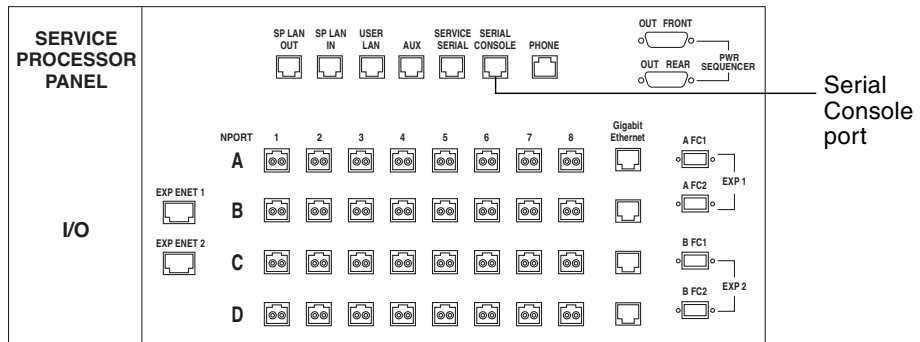

FIGURE 2-20 Serial Console Connection
3. Connect the serial cable from the Serial Console port on the service panel to your laptop, terminal, or workstation (FIGURE 2-20).